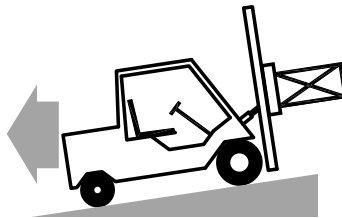

Figure 2-4,
- Always back down ramps or inclines. Driving forward down a ramp or incline with a clamped load will lessen the stability of the truck. (Figure 2-4)